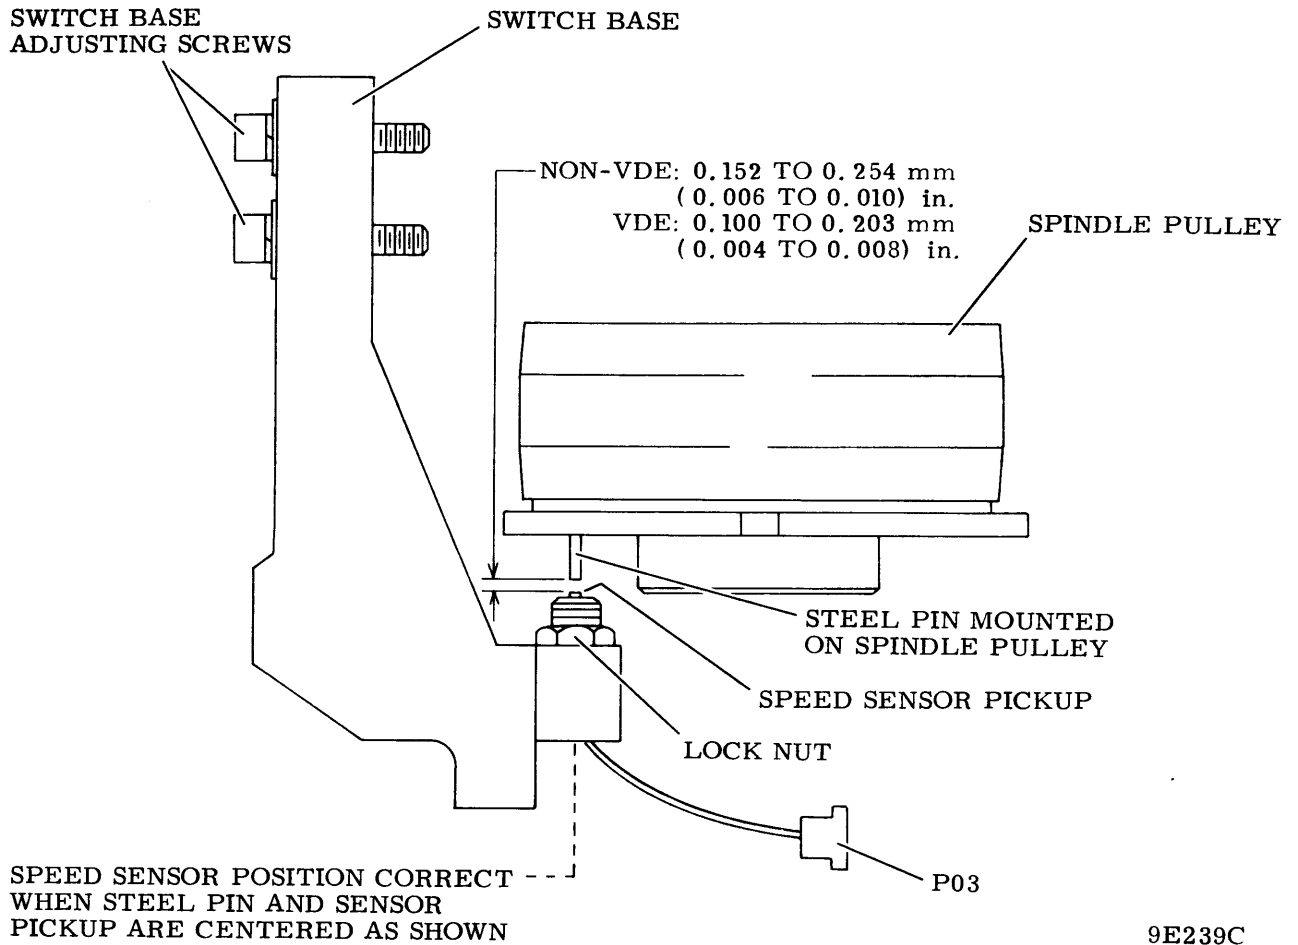

Figure 6-35. Speed Sensor Assembly Adjustment
5. Use feeler gauge to ensure that gap between sensor tip and pin is as follows (refer to figure 6-35):